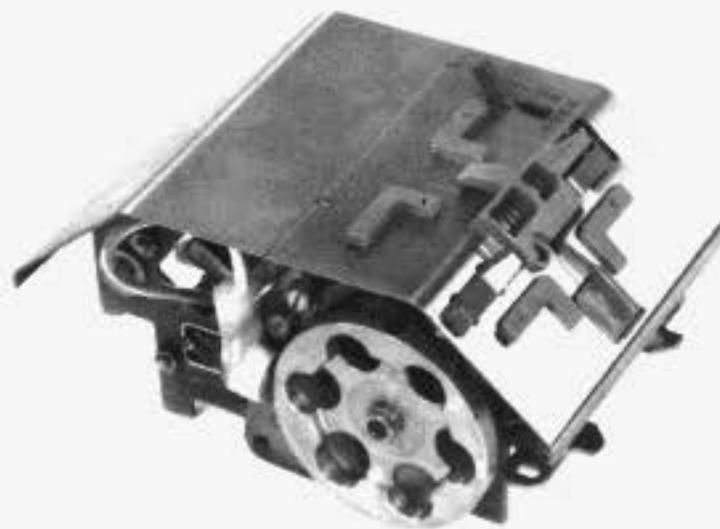

Figure 1 - High Speed Tape Reader Unit
1.04 References made to left or right, front or rear, top or bottom, etc refer to the reader as viewed with the flywheel in the front (Figure 1).